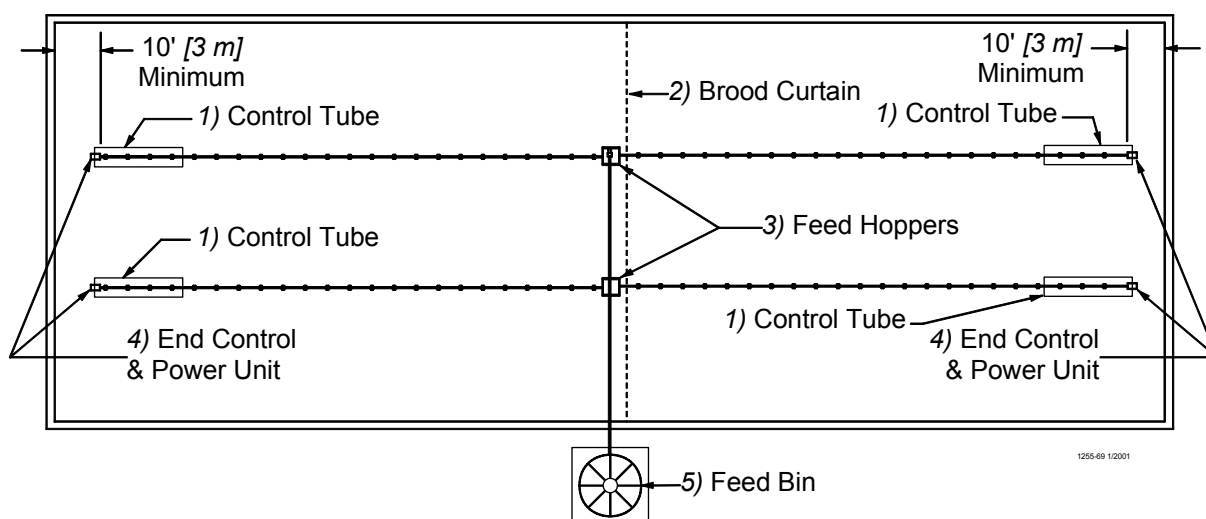

Figure 2. Component location diagram for systems over 400 feet [122 m]. (Top View).
- A. Systems with line lengths over 400' [122 m] should be split in the center, as shown in **Figure 2**. This will reduce auger running time and eliminate the need for Mid-Line Controls for partial house brooding.